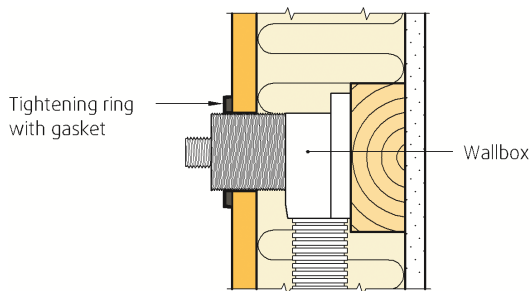

Fig. 6
- Tightening ring and gasket delivered with wall box is installed as illustrated in Fig. 6.